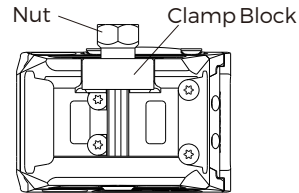

Fig 5
1. Use the included 11mm tool to loosen the nut by rotating counterclockwise. (See Figure 5)